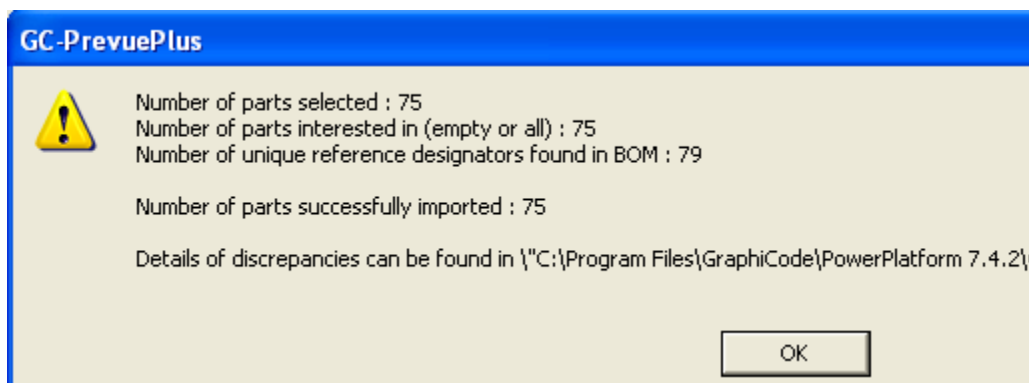

Figure 52
4. Press OK and review the BOM information assignments in Tools > Query (hot key “q”) – See Figure 52: